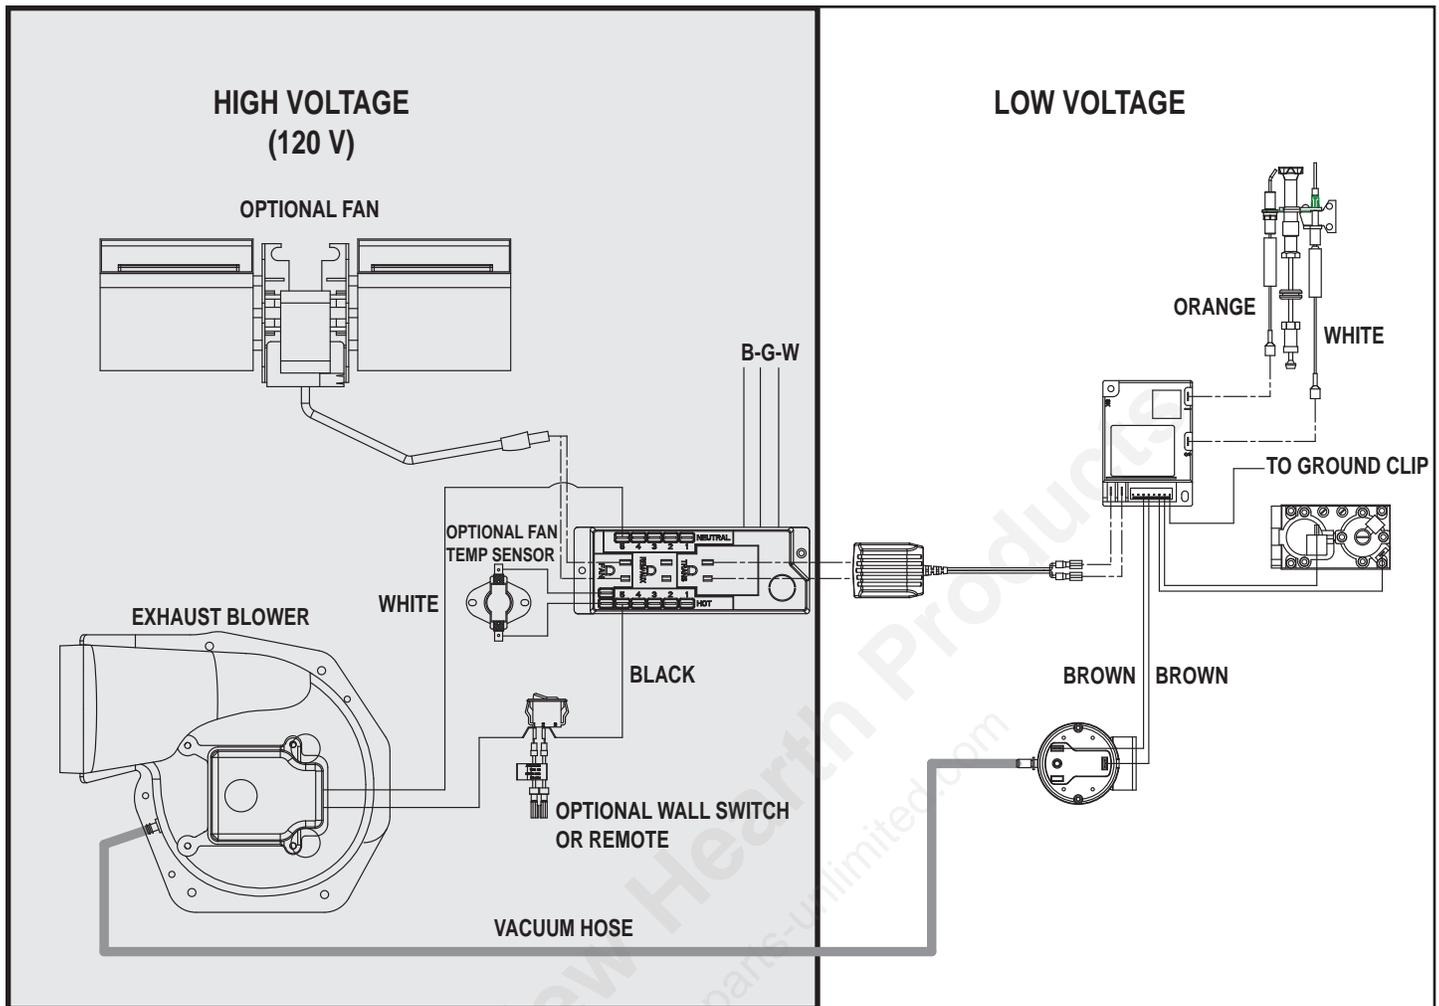

Figure 12.2 IntelliFire Pilot Ignition (IPI) Wiring Diagram
- Refer to Figure 12.2, IntelliFire Pilot Ignition (IPI) Wiring Diagram.
- When placing Glowing Embers[®] onto the burner care should be taken so that the ports are not covered. Place the dime-size ember pieces about 1/2 inch apart near port holes in burner top, but not on or in between the ports. For best performance do NOT place embers on ports at rear of burner (see Figure 12.2). Failure to follow this procedure will likely cause lighting and sooting problems.